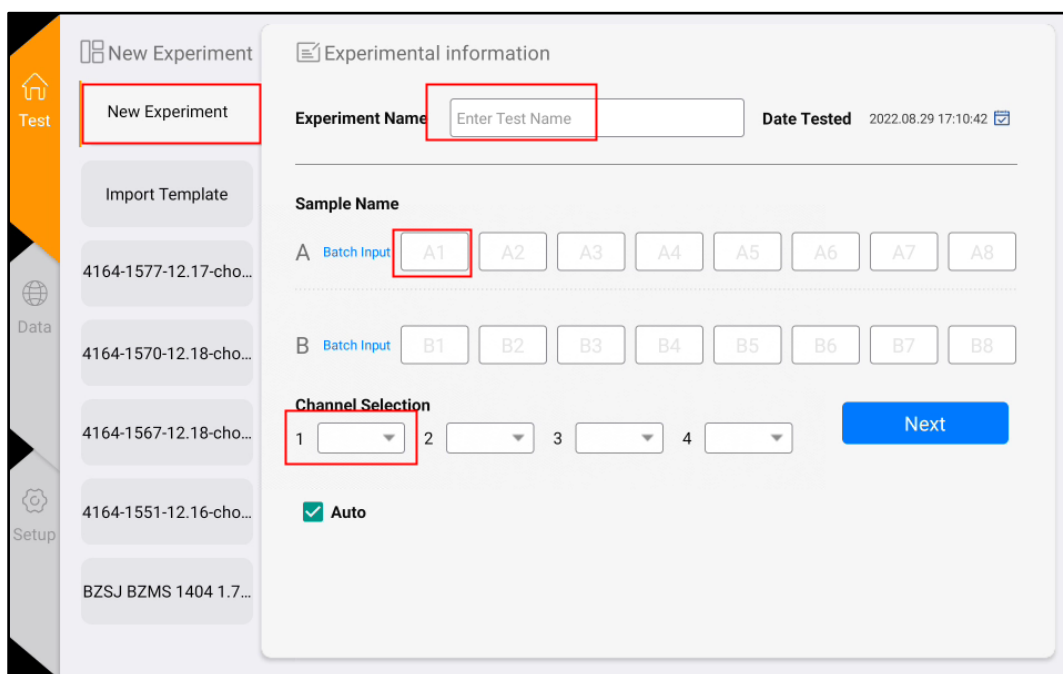
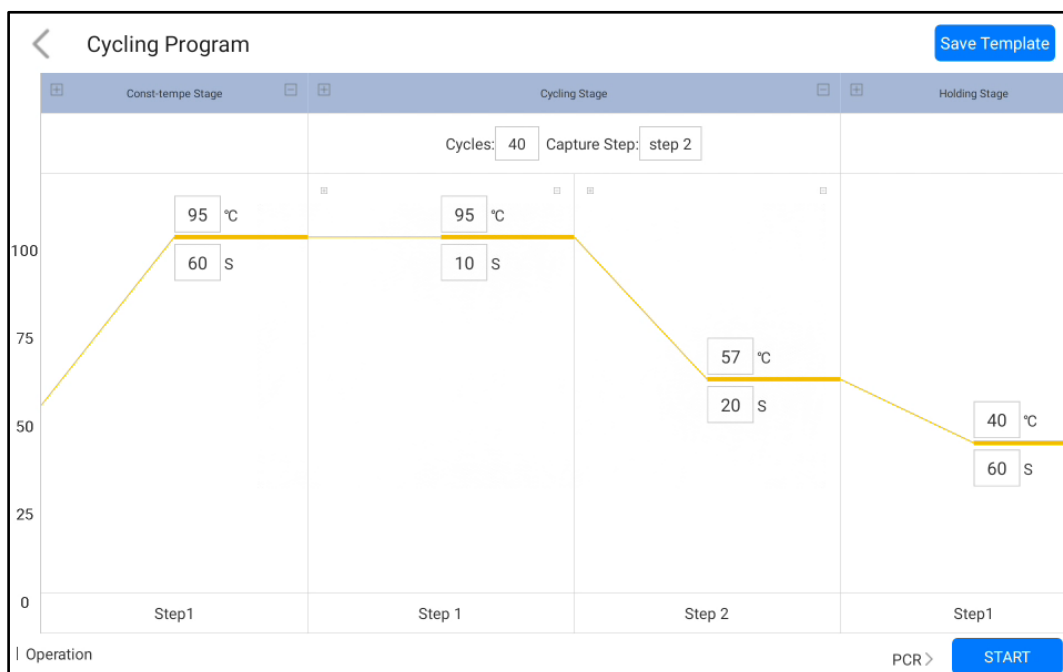

Figure 4-2-1 New experiment interface
Figure 4-2-2 Experimental Setting 2
- 1) In the Test interface, click <New Experiment>(Figure 4-2-1) the right panel is the Experiment Setting 1, in the Experiment Setting 1 (Figure 4-2-2), enter the experiment name, select the corresponding channel, select the well position, and enter the sample information, etc., and click "Next" to enter the Experiment Setting 2.